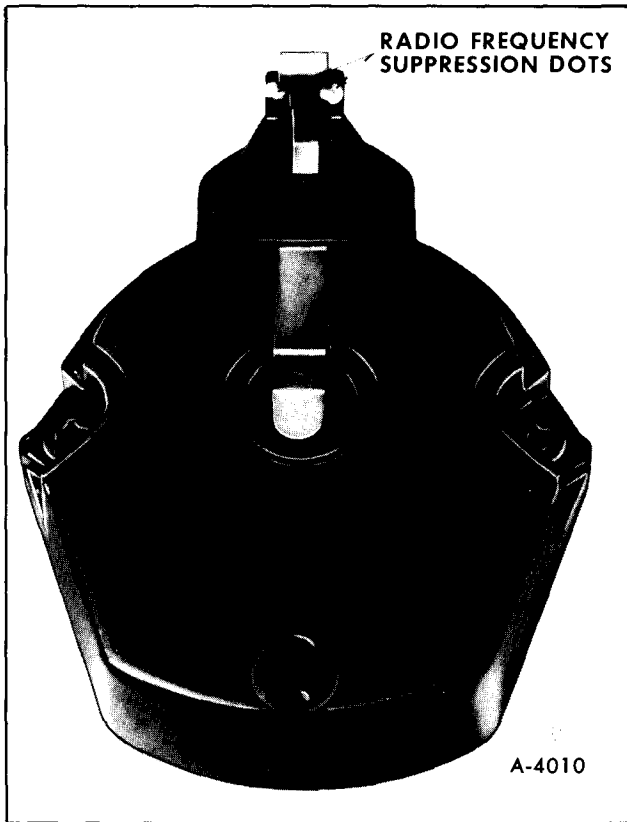

Figure 60—HEI Rotor
2. Remove rotor (figure 60) from distributor shaft by removing two screws.